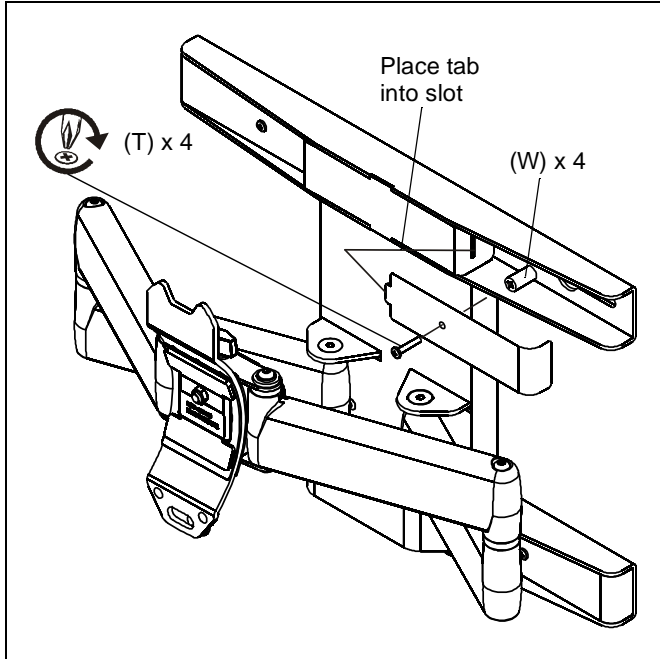

Figure 3
1. Install four cover plates (T) using four 10-32 x 1 1/8" Phillips pan machine screws (V) and four spacers (W). Insert screw into cover plate and add the spacer before inserting the cover plate tab into the arm assembly/wall plate. (See Figure 3)